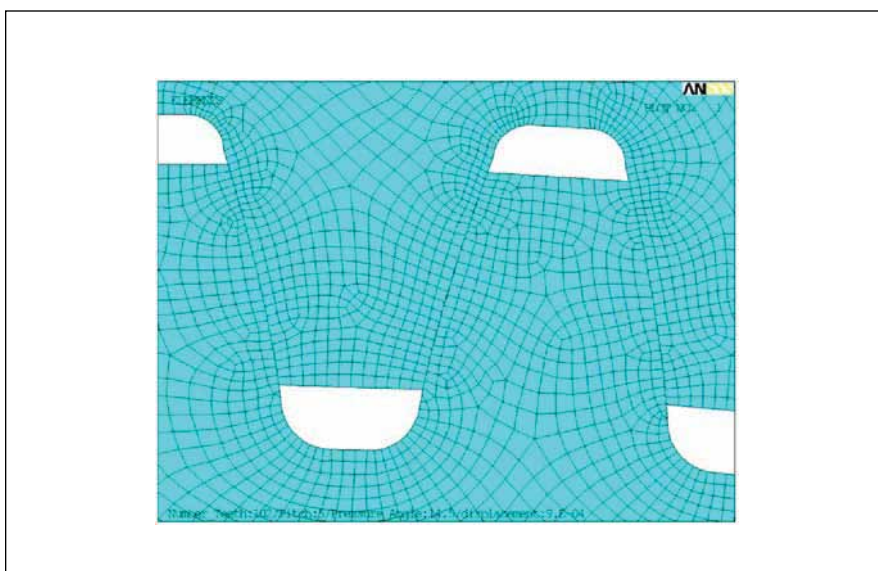

Figure 15—Finely meshed teeth for FEA contact stress analysis.
**FEA analysis results.** An example FEA mesh of mating spline teeth is shown in Figure 15, but the clearance is too small to see.